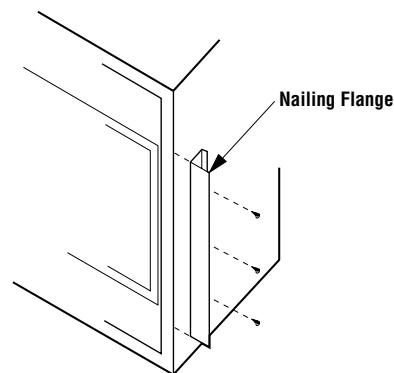

Figure 11
Step 3. Remove the nailing flanges from the lower control compartment and install in place with three (3) screws each. Align with the three holes on each side of the appliance (see Figure 11).